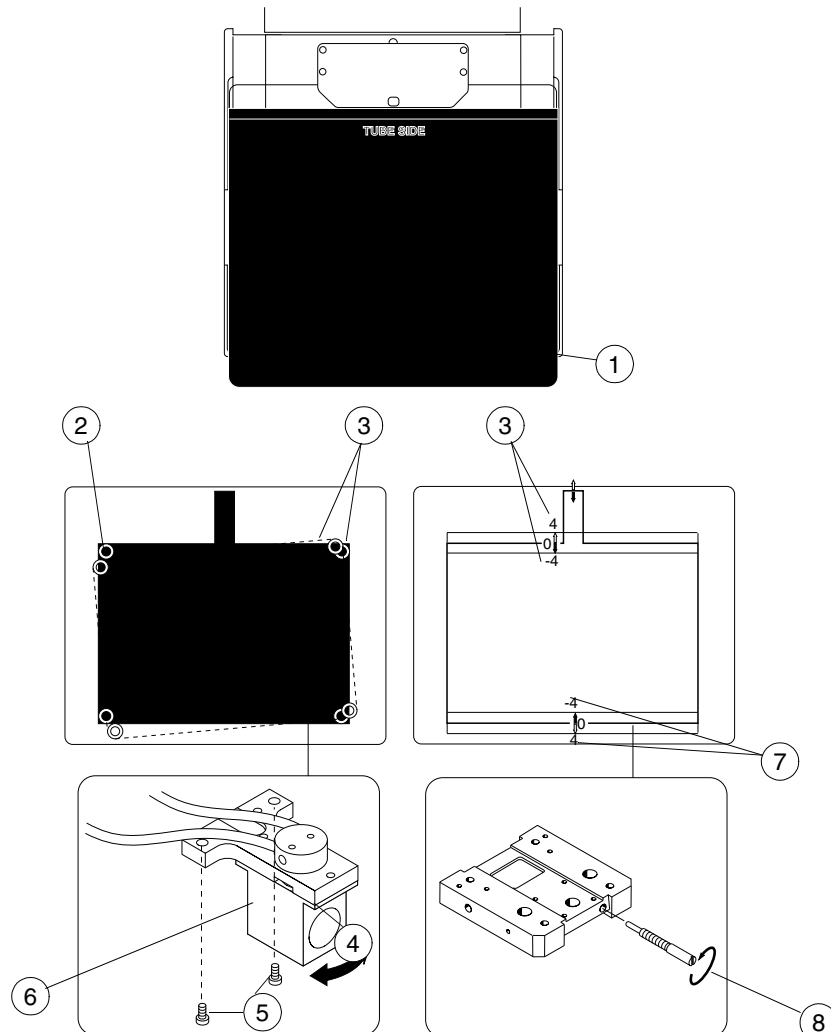

Figure F.17
- a) Place a loaded large cassette on a cassette table so that it overhangs on the cassette table front edge (Fig. F.17, 1).
- d) Place small metal objects (e.g. coins) to the corners of the light field (Fig. F.17, 2).
- g) The maximum allowed misalignment of the fields is  $\pm 4$  mm (Fig. F.17, 3).
- h) If needed, adjust the bulb housing in the collimator frame (Fig. F.17, 4):
- Loosen the bulb housing fixing screws (Fig. F.17, 5) and turn the lamp assembly (Fig. F.17, 6). Tighten the screws, replace the power supply and take a new exposure.
- i) If the misalignment in the back/front direction is more than  $\pm 4$  mm (Fig. F.17, 7), adjust the light field with the mirror angle adjusting screw (Fig. F.17, 8).